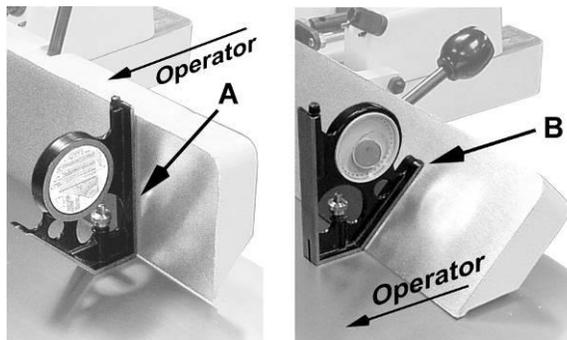

Figure 15
- Adjust the fence to a 90° angle by releasing *lock handle* (B), pulling up on the *fence handle* (E), and tightening the *lock handle* (B).
**Note:** The *stop bolt* (F) should be resting against the *stop block* (C).
- Place an angle measuring device on the table and against the fence to confirm a 90° setting (A, Fig. 15).
- If the fence is not square to the table, release the *lock handle* (B), loosen the *lock nut* (D) that secures the *stop bolt* (F), and turn the stop bolt until the fence is square to the table.
- Tighten the *lock nut* (D) to secure the *stop bolt* (F) which retains the setting.
- Tighten the *lock handle* (B).
- Loosen the lock handle (B).
- Move the stop block (C) out of the way and position the fence at the 135° angle; fence tilt lever (E) is positioned *away* from the operator as shown. Make sure the fence sits against the *stop bolt* (H).
- Tighten the lock handle (B).
- Place an angle measuring device on the table and against the fence to confirm a 135° setting (B, Fig. 15).
- To adjust, loosen the *lock nut* (J) securing the *stop bolt* (H) and turn the stop bolt until a 135° angle of the fence is obtained.
- Tighten the *lock nut* (J).